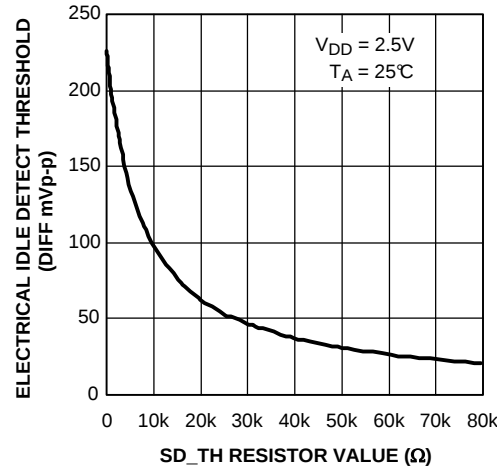

Figure 7. Typical Idle Threshold vs. SD_TH resistor value
(1) SD_TH resistor value can be set from 0 through 80k ohms to achieve desired idle detect threshold, see Figure 7